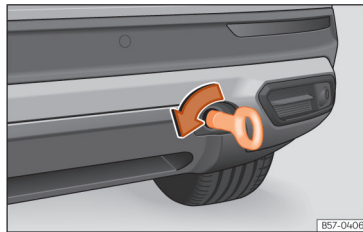

Fig. 197 Right side of the rear bumper: towline anchorage screwed in.
- Screw the towing eye in the housing by turning it to the maximum **anticlockwise** »» Fig. 197 , »» ①. Use a suitable object that can completely and securely tighten the towing eye in its housing.